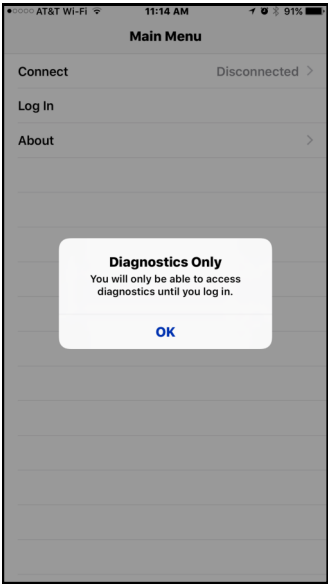

Figure 2
3. Another window will appear giving the notice that Diagnostics will only be available in this app. Select OK to exit the window. (Figure 2)